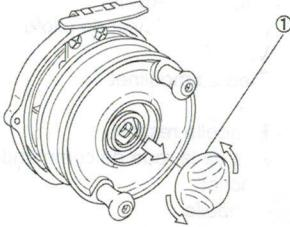

Fig.2
2. i ) Remove "O" ring (2), spool washer (3), click gear (4), spacing sleeve (5) and ratchet (6) in order. (Fig.2)
3. Take screw (7) off and turn the stopper plate (8) and the stopper plate spring (11) over. (Fig.2, Fig.3)
4. Take the line guard screws (9) off and set the line guard (10) on the other side of the body. (Fig.2, Fig.3)